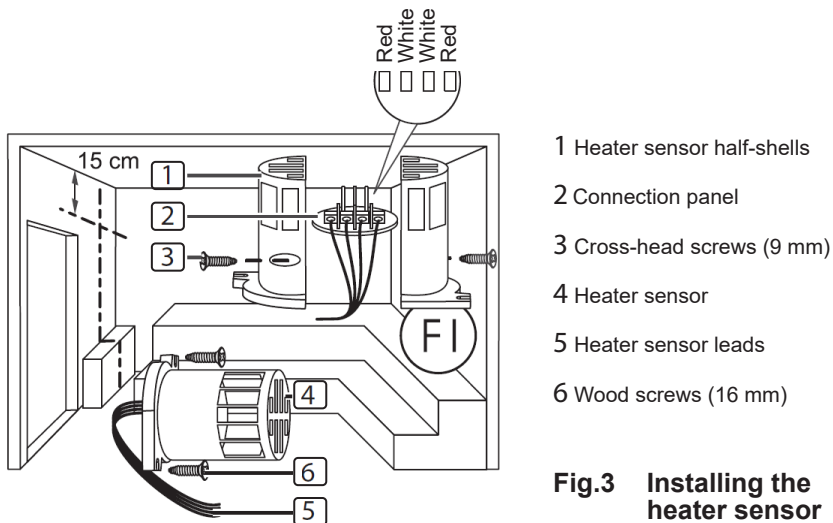

Fig.3 Installing the heater sensor
To install the heater sensor, carry out the following steps (see **Fig.3**):
3. Connect the four connections for the heater sensor lead 5 in accordance with **Fig.3**.
4. Place the connection panel 2 crossways (as shown in **Fig.3**) in the heater sensor half-shells.